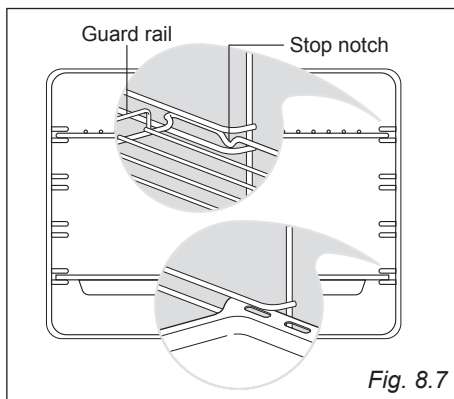

Fig. 8.7
- Slide into the guides, the shelf and the tray (fig. 8.7).
The oven tray must be inserted into the side runners (fig. 8.7).